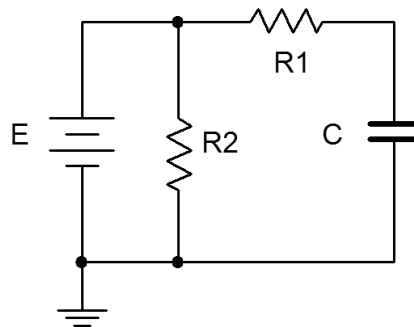

Figure 1.2
4. Using figure 1.2 with $E=10\text{ V}$, $R_1=47\text{ k}\Omega$, $R_2=10\text{ k}$ and $C=1\text{ }\mu\text{F}$, calculate the time constant and record it in Table 1.3. Also, calculate and record the expected steady state capacitor voltage in Table 1.4.
7. Using figure 1.2 with $E=10\text{ V}$, $R_1=47\text{ k}$, $R_2=10\text{ k}\Omega$ and $C=470\text{ }\mu\text{F}$, calculate the time constants and record them in Table 1.5. Also, calculate and record the expected steady state capacitor voltage (charge phase) in Table 1.5.